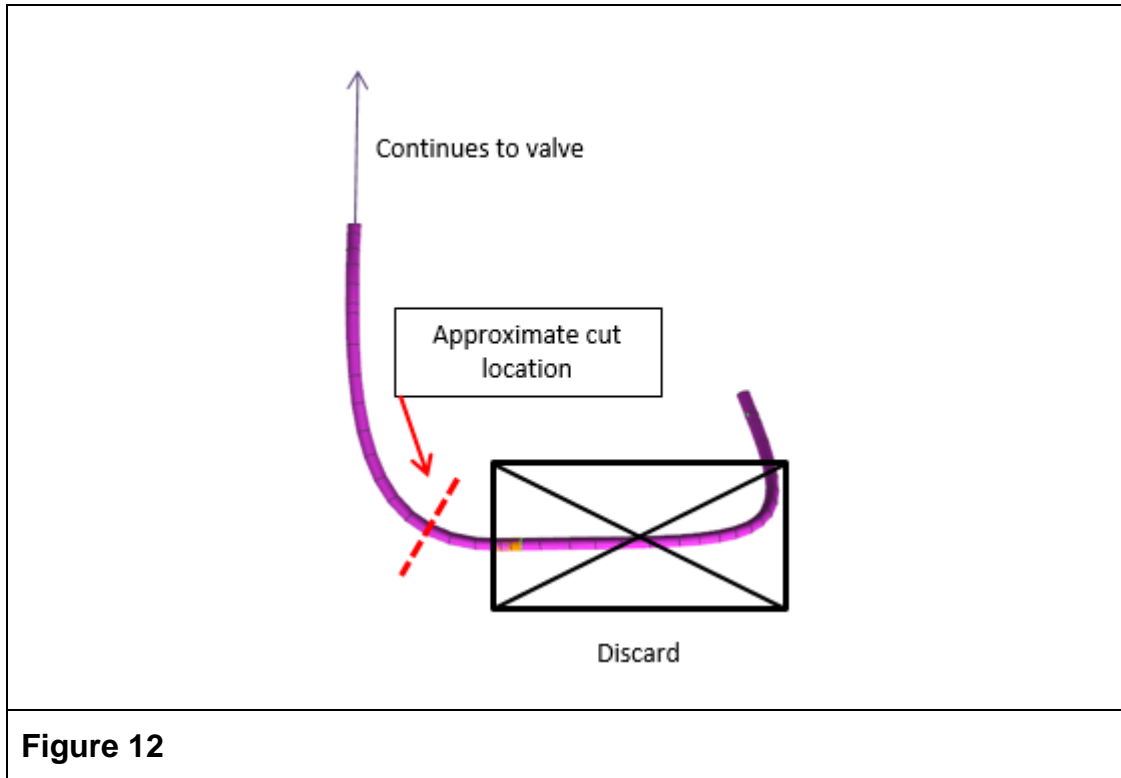

Figure 10
10. With a marker, draw a new insertion depth line ending 24.4mm (1 inch) from cut end. (See Figure 10.)